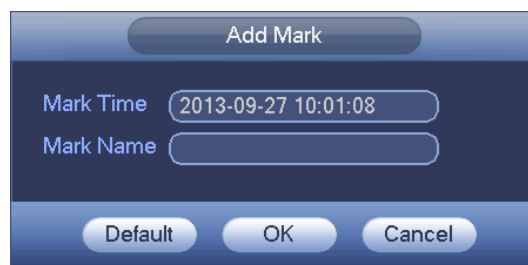

Figure 4-109
Step 1 When system is playback, click Mark button . Enter add mark interface. See Figure 4-109.